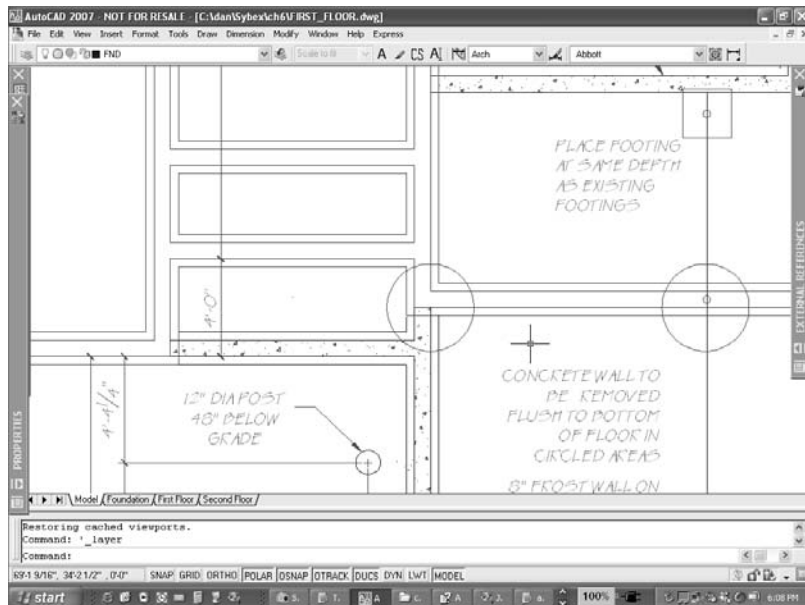

Figure 6.7
4. *Linetypes.* Set LTSCALE and CELTSCALE to 1 so that linetypes are scaled with the same line-segment length with which they were created. This results in linetypes that may not appear correctly in Model Space. Don't worry; they'll look fine in the layout if you make sure PSLTSCALE is also set to 1. Figure 6.7 shows what hidden lines look